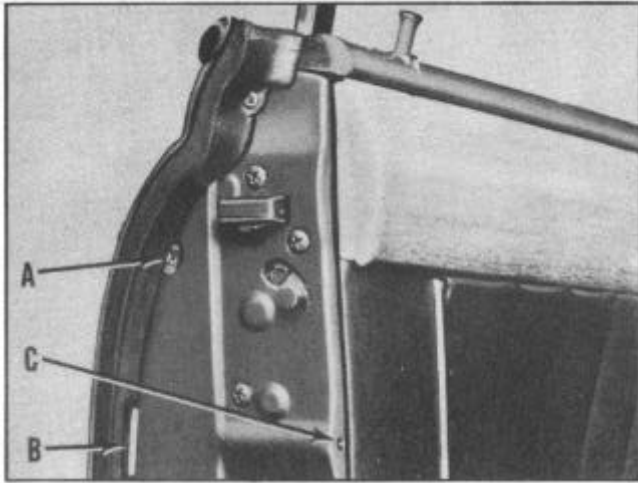

FIGURE 131
To remove the door outside handle, remove Phillips head screw (A), Figure 131, from edge of door. Push handle forward and lift handle out of door.
Insert a screwdriver under the flanged edge of the lock retainer (B), Figure 131, and pry outward. This will release the lock cylinder assembly for removal from the door. (Do not remove lock retainer.)